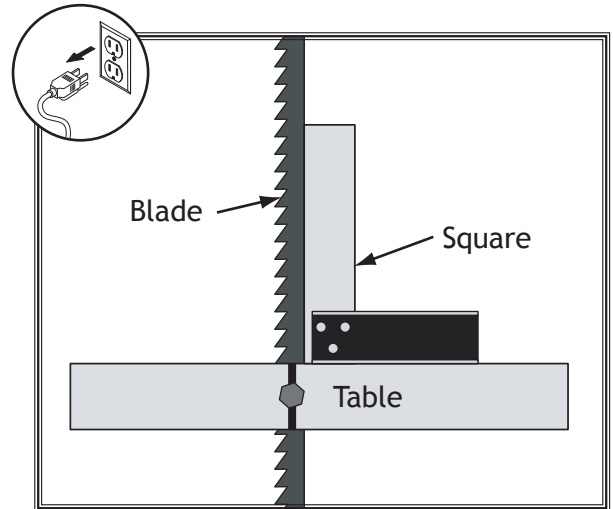

Figure 61. Squaring back of blade and table.
2. Place a square on table and against back of blade, as illustrated in **Figure 61**. Table should be perpendicular to back of blade.
3. Loosen hex nut (see **Figure 61**) that locks the positive stop bolt in place.